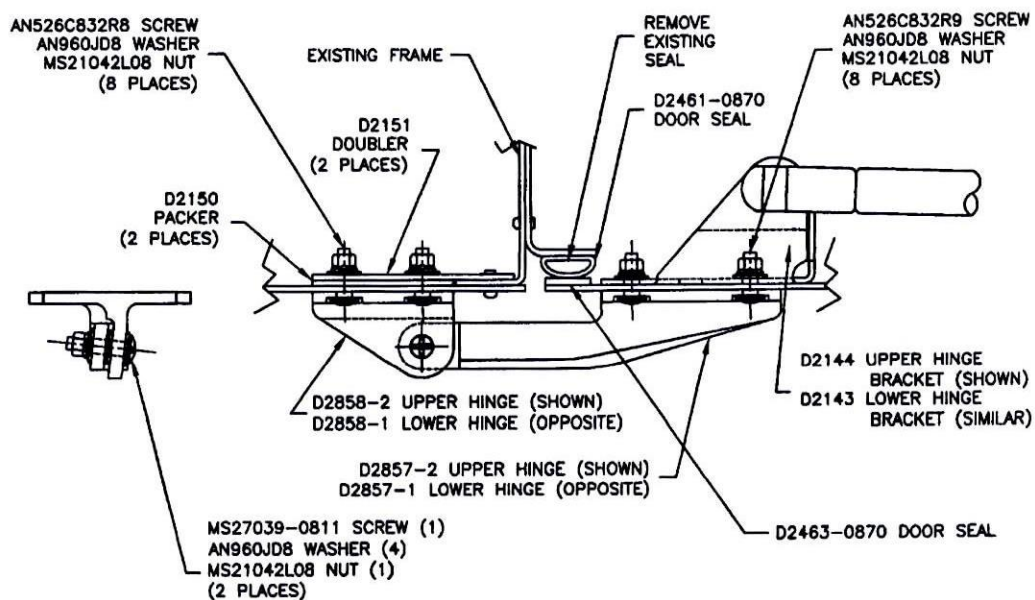

Figure 3: Hinge Detail
2. Place D2461-0870 Neoprene D seal around top and side edges (see Figure 3).
4. Assemble D2857 and D2858 hinge components to Dart door per Figure 3 if required.
7. Place D2150 and D2151 packers as shown in Figure 3 and transfer drill 0.128" (3.3mm) diameter through holes of step 3.
9. Install Door on aircraft using hardware shown in Figure 3.